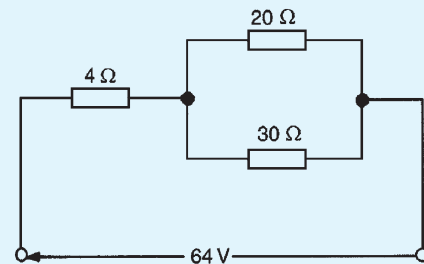

Figure 5.31
- (a) Calculate the current flowing in the  $30\ \Omega$  resistor shown in Fig. 5.31. (b) What additional value of resistance would have to be placed in parallel with the  $20\ \Omega$  and  $30\ \Omega$  resistors to change the supply current to  $8\ \text{A}$ , the supply voltage remaining constant.